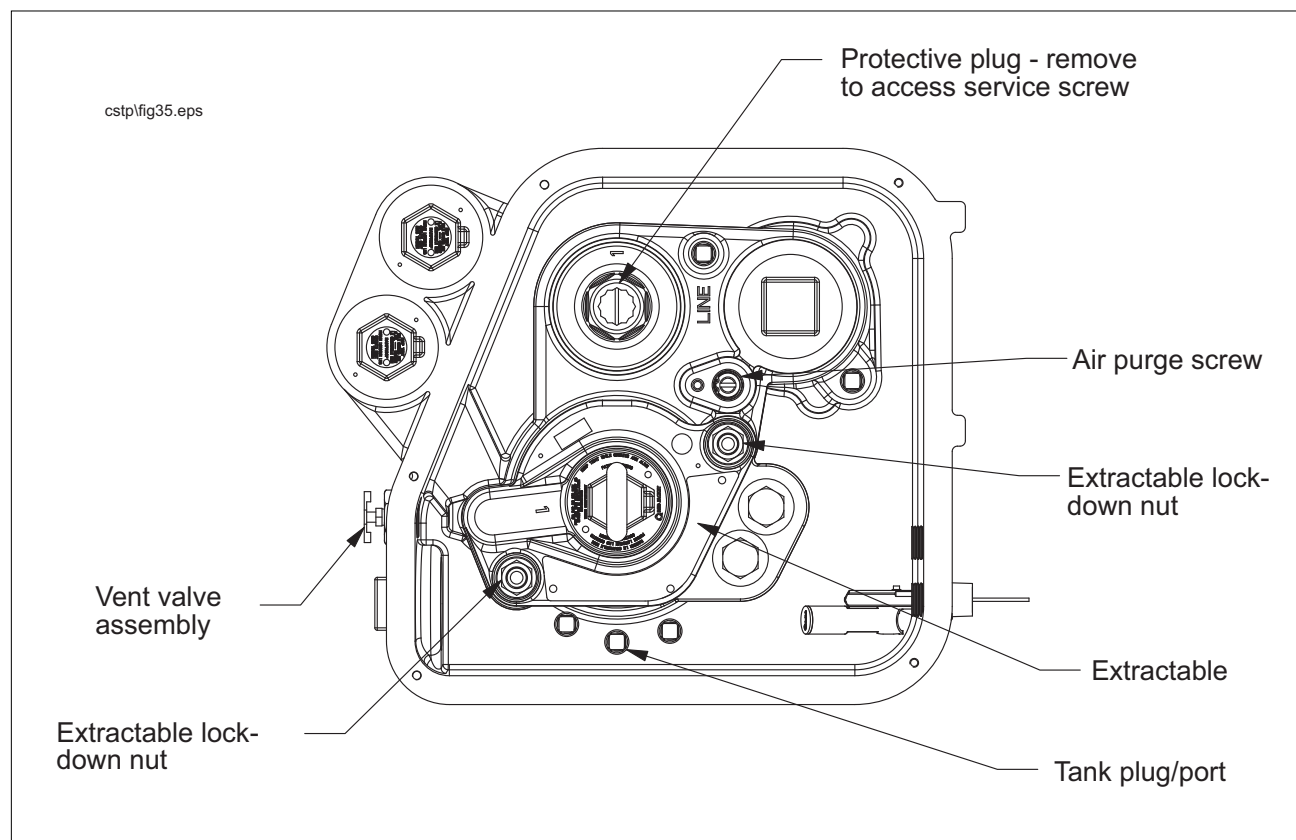

Figure 39. Extractable Lockdown Nuts
7. Remove the two extractable lock-down nuts (See Figure 39 on page 50). The springs on the lock-down studs between the extractable's flange and the manifold will push the extractable up, breaking the seals.
7. Remove the two extractable lock-down nuts (see Figure 39). The springs on the lock-down studs between the extractable's flange and the manifold will push the extractable up, breaking the seals.